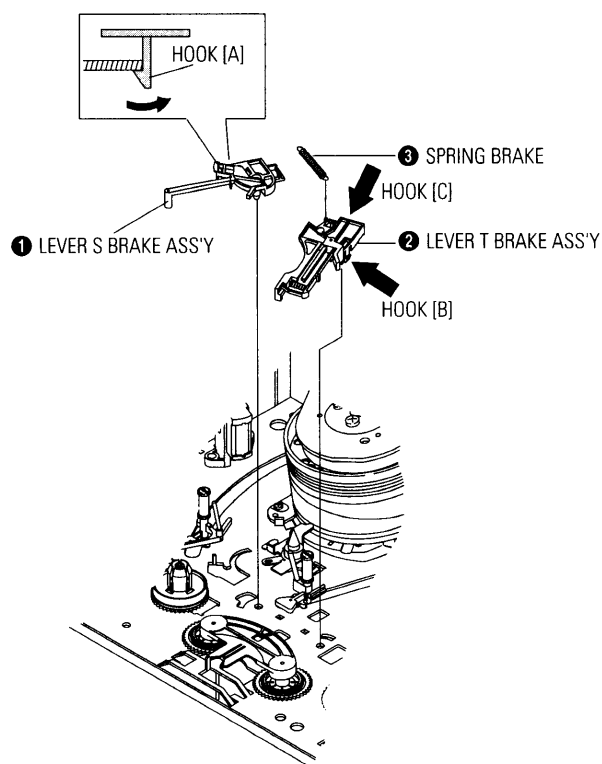

Fig. 4-21 Lever S, T Brake Ass'y Removal
- 1) Release the Hook [A] and the Hook [B], [C] in the direction of arrow as shown in Fig. 4-21.
- 2) Lift the Lever S, T Brake Ass'y ①, ② with Spring Brake ③.